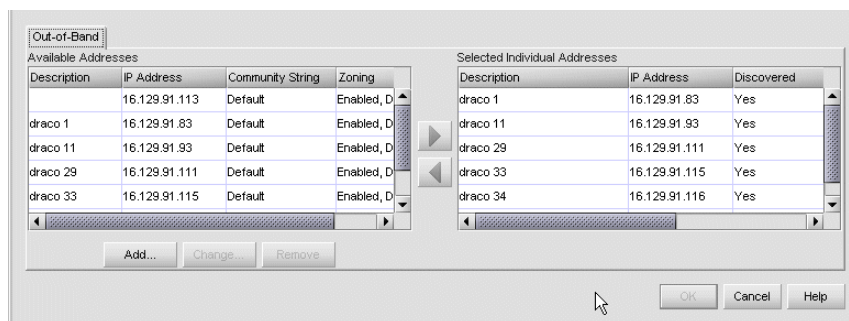

Figure 39: Discover Setup dialog box
1. At the *HAFM* application, choose **Discover > Setup**. The Discover Setup dialog box displays, as shown in Figure 39.